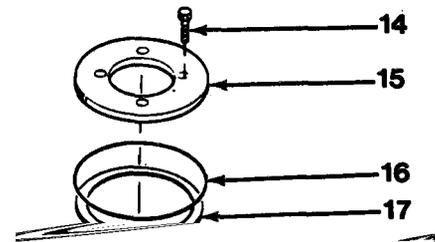

Figure 13-4
3. Install seven rectangular rings (24), teflon seals (23) and two wear rings (22) on spool (18).
4. Carefully install spool (18) by pushing spool (18) into case (19) from bottom. Align matchmarks and seat spool (18) firmly.
5. Install O-ring (21) and back-up ring (20) on spool (18).
6. Install thrust washer (17), O-ring (16) and cover (15) with four capscrews (14, Figure 13-4).